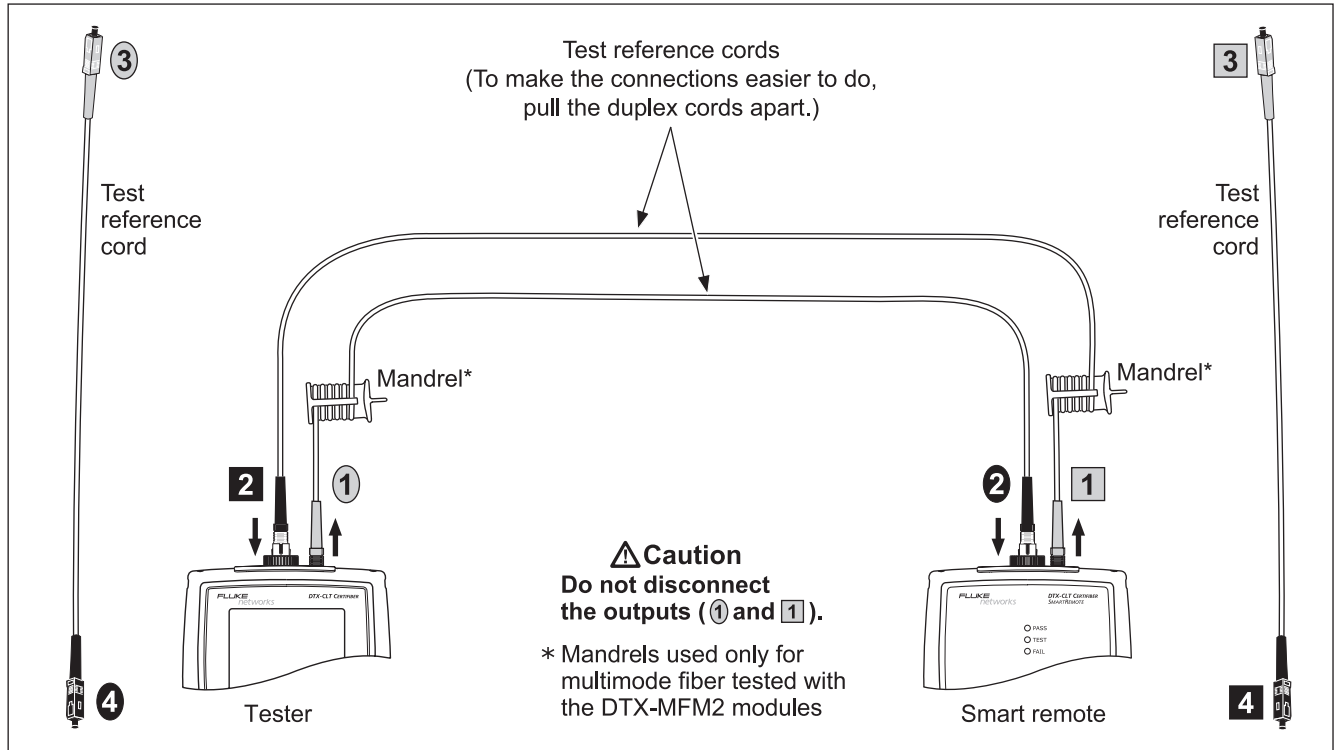

Figure 13. Setting the Reference in Smart Remote Mode (1 Jumper Method)
Figure 10 shows how to wrap the fiber around a mandrel. Place mandrels on the tester's output fibers, as shown in Figures 13 through 23.
- 4 The **Set Reference** screen shows reference connections for the test method you selected. Figure 13 shows connections for the 1 Jumper method. Clean and inspect the connectors on the testers and test reference cords, connect the tester and smart remote; then press .